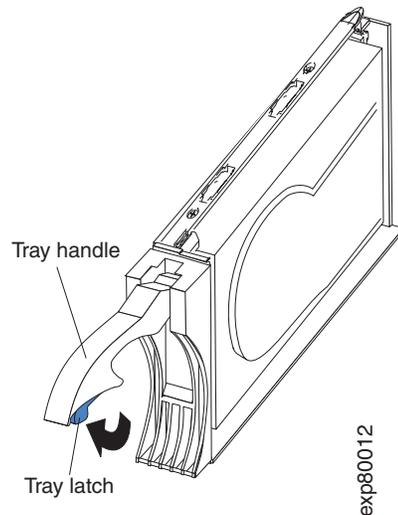

Figure 88. Drive CRU handle
- b. Pull the handle on the tray out so that it is in the open position, as shown in Figure 88.
- a. Release the latch on the drive CRU by pressing on the inside of the bottom of the tray handle, as shown by the arrow in Figure 88 on page 123.